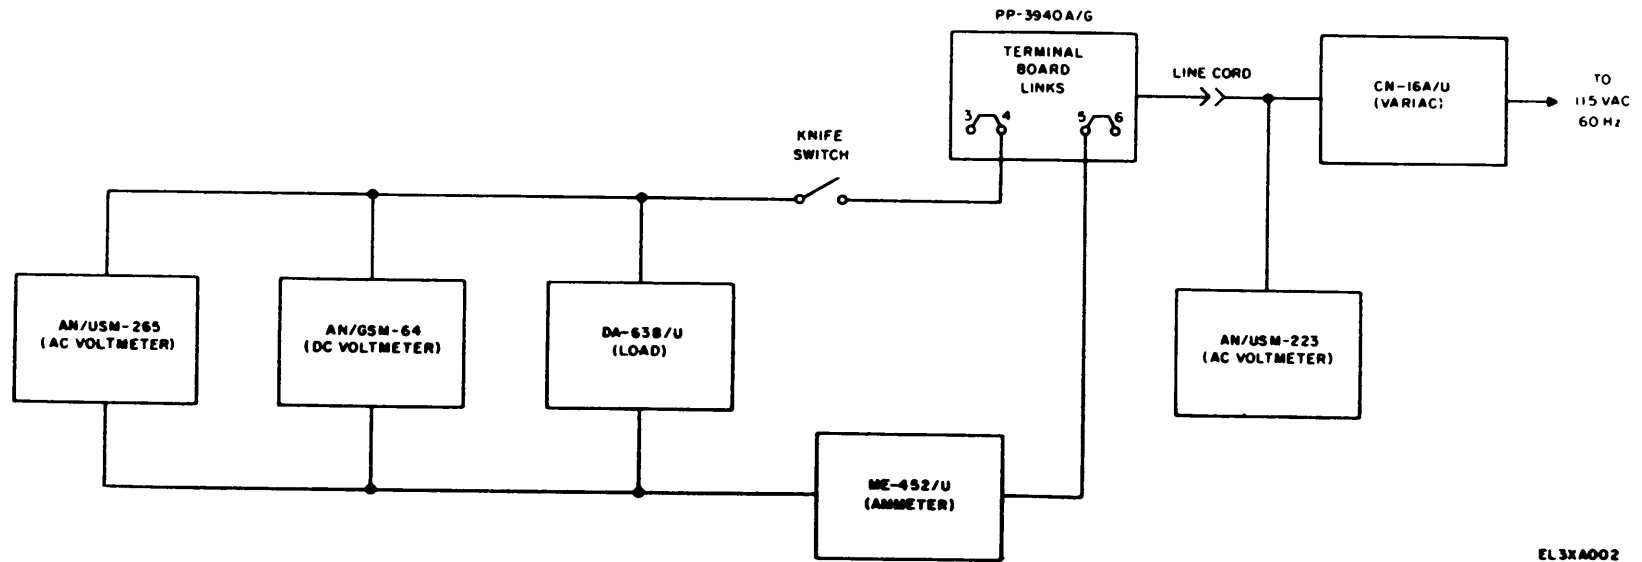

Figure 6-1. Test set-up for voltage and current test.
c. Connect the AN/GSM-64, AN/USM-265, DA-638/U, AN/USM-223, knife switch, and ME-452/U as shown in figure 6-1. Be sure that the links of the power supply are connected between terminals 1 and 2, 3 and 4, 5 and 6, 8 and 9, and 10 and 11.